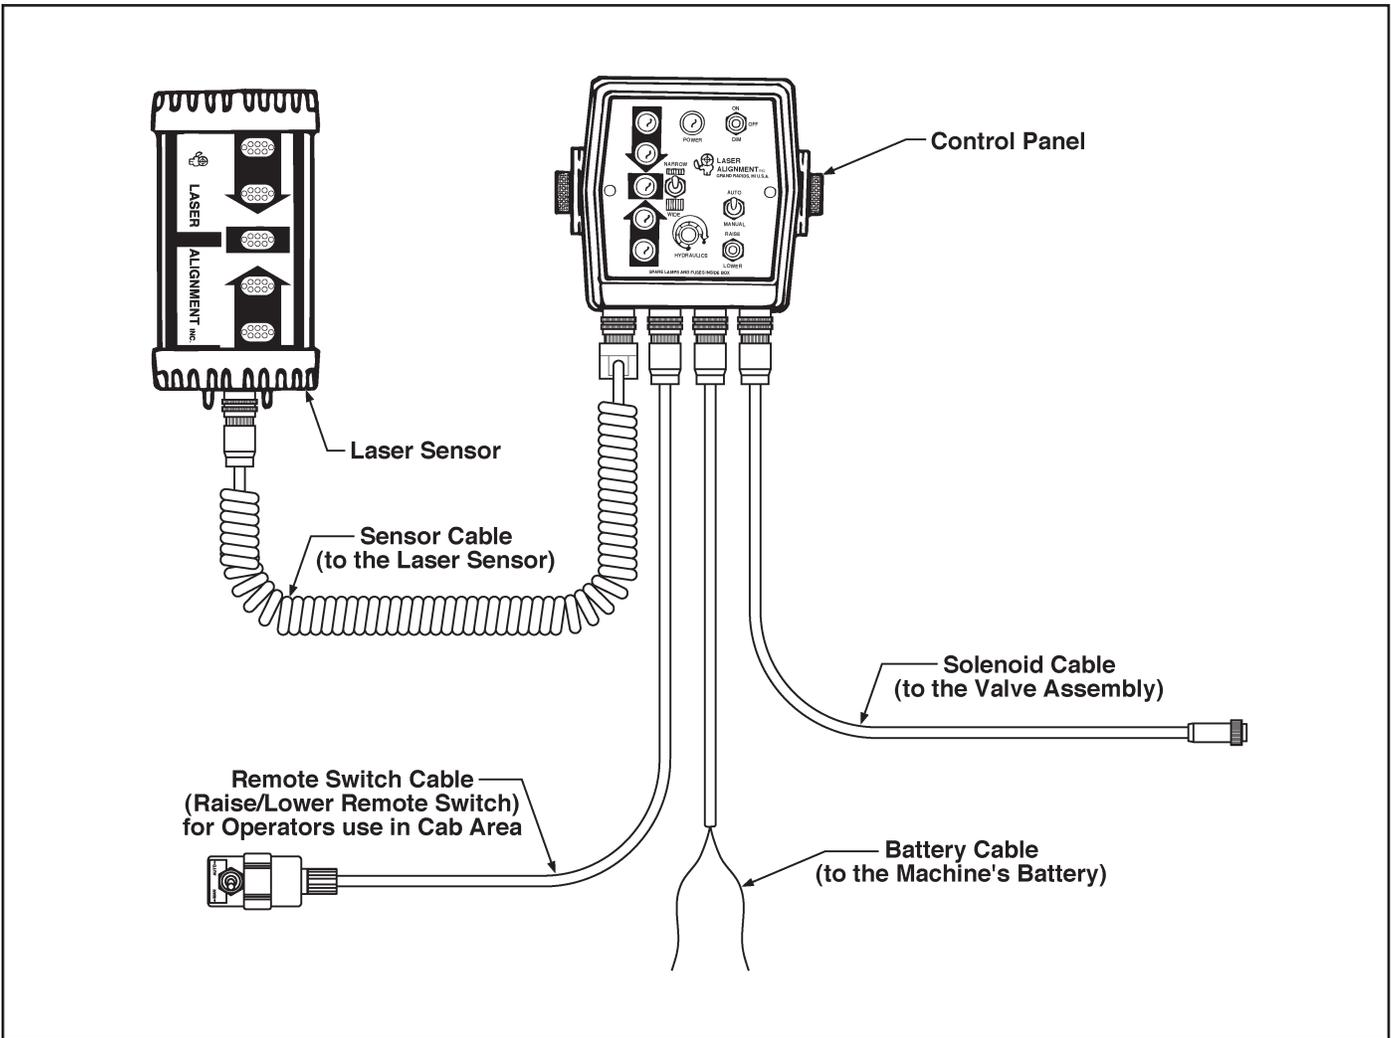

Figure 16. Single Automatic Control System
7. Connect the straight end of the Sensor Cable to the base of the Laser Sensor and the 90° end to the Control Panel. All cables only attach to the proper connectors. (Refer to Figures 16 and 17.)